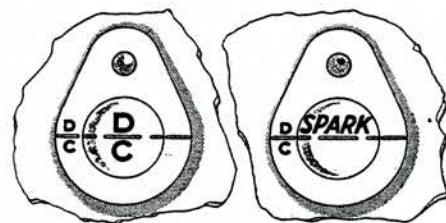

Fig. 23 Ignition timing marks on flywheel. Series M
4. Continue cranking slowly until "D C" mark on flywheel lines up with marks on side of timing hole, Fig. 23.
7. Crank engine until compression stroke of No. 1 cylinder is again determined. Continue to crank until the "SPARK" mark on flywheel lines up with marks on timing hole, Fig. 23.
11. Tighten distributor body clamps and install rotor, cap and wires. To set the ignition timing when the oil pump has not been removed crank the engine to bring No. 1 piston up on its compression stroke and stop when the "SPARK" mark on the flywheel, Fig. 23, lines up with the marks on the timing hole. Hold the distributor rotor against its normal rotation and turn the distributor body until the breaker points just begin to open and tighten the distributor clamp bolts.